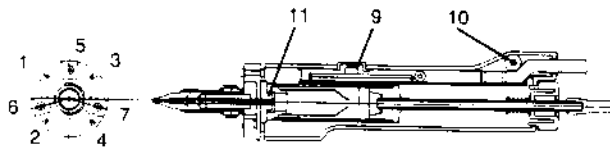
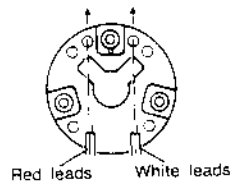

FIGURE 7.
FIGURE 8.
4. Remove the housing fastener (8) — Fig. 7.
5. Remove the screws securing the housing (10) and the flange (3), (4) — Fig. 7.
6. Remove the front holder (11) — Fig. 7.
7. Remove the screws (5), (6), (7) securing the heating element to the flange, and the screws (1), (2).
9. Secure a new heating element (24 V – 60 W) to the flange with screws (5), (6), (7). Install the heater in such a way that the lead wires are oriented as in Fig. 8.